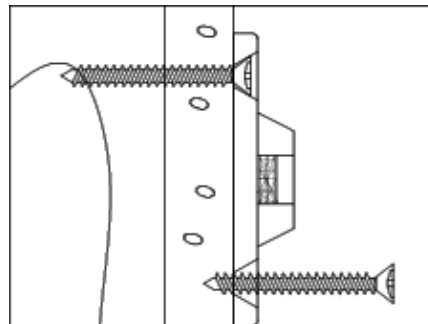
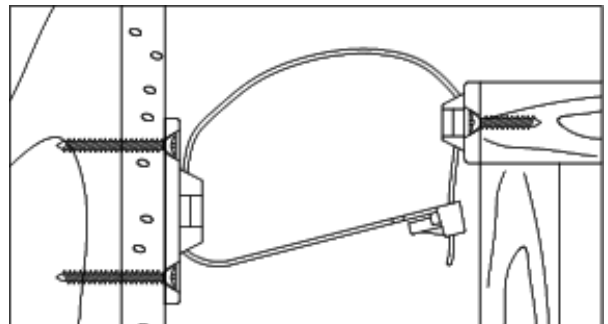

Figure 2
Figure 3
- MOUNTING THE WALL-SIDE MOUNTING PLATE :** Position the wall-side mounting plate along the selected stud mark so that it will be adjacent the furniture-side mounting plate when the furniture item is moved to its final position. The wall-side mounting plate should be about ONE inch lower than the furniture-side mounting plate (See Figure 3). Use the TWO Long screws to secure the wall-side mounting plate to the wall. Remember to position the wall-side mounting plate vertically so that both screws will engage the selected wall stud (See Figure 2).